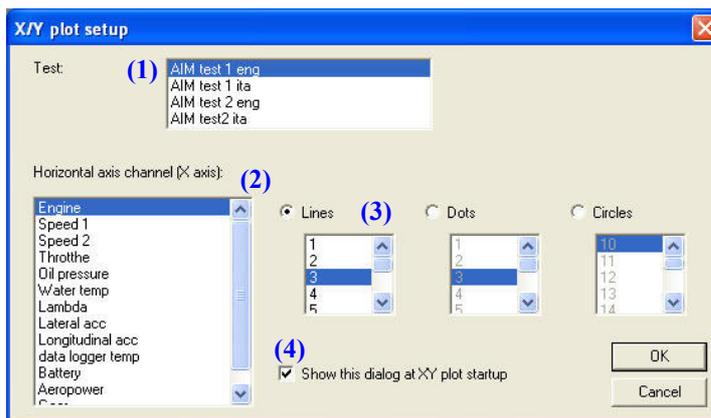

Fig. 4.16– X-Y plot setup window
In Figure 4.16 it is shown the X-Y plot setup window.
If the checkbox (4) is enabled, the window shown in Figure 4.16 will be shown each time the X-Y plot is started. Otherwise, if the checkbox is disabled, it will be shown the X-Y plot; right click inside the graph area to activate the X-Y Plot setup window.